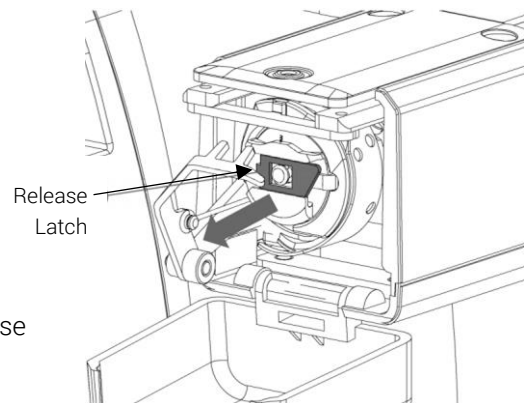

Figure 40
2. Hold the bobbin case with the pigtail facing up. See Figure 40.
3. Grab the bobbin case by the bobbin case release latch. See Figure 40.